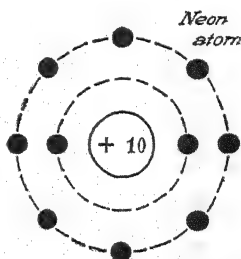

FIG. 103. — The neon atom neither gains nor loses electrons.
**137. Atoms with Ten or More Electrons.** The *neon* atom has ten electrons, two in an inner ring or shell, and eight in another. (See Fig. 103.) This configuration is stable, and no electrons can be added to it or taken from it. Hence neon belongs to that bachelor group of elements that forms no alliances with other elements. The sodium atom has eleven planetary electrons, two in one ring, eight in another, and a single valence electron. It is a very active metal, since it loses this single electron so easily. The chlorine atom has an inner ring of two electrons, a second ring of eight, and seven valence electrons.